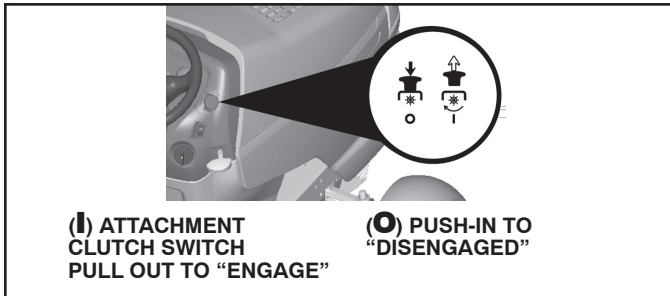

FIG. 5
- To stop mower blades, push attachment clutch switch in to disengaged position (O) (See Fig. 5).